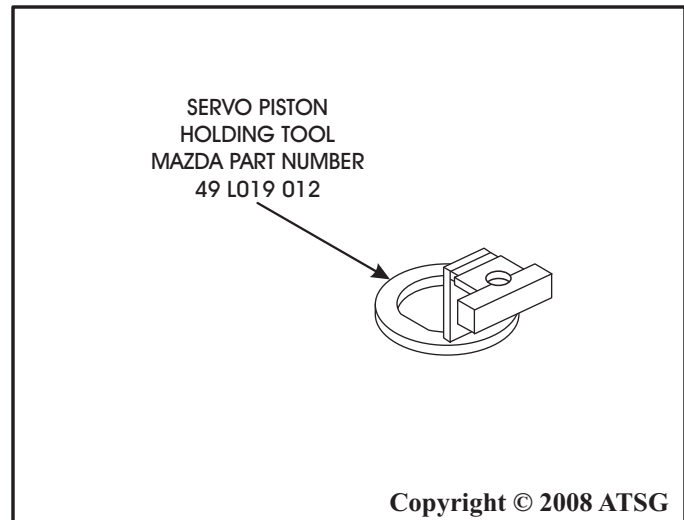

Figure 131
- Note: This is a mandatory tool to get the adjusting screw locking nut torqued properly. We have provided the Mazda part number, as shown in Figure 131 and 132.**